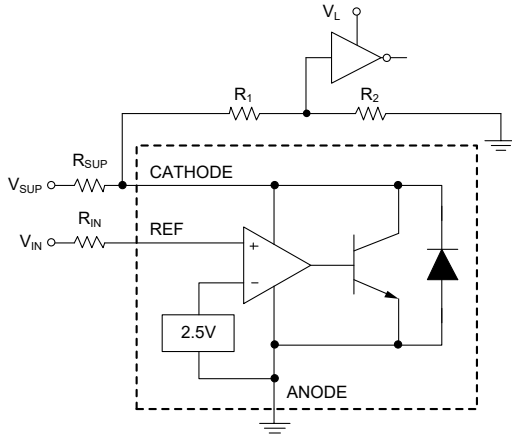
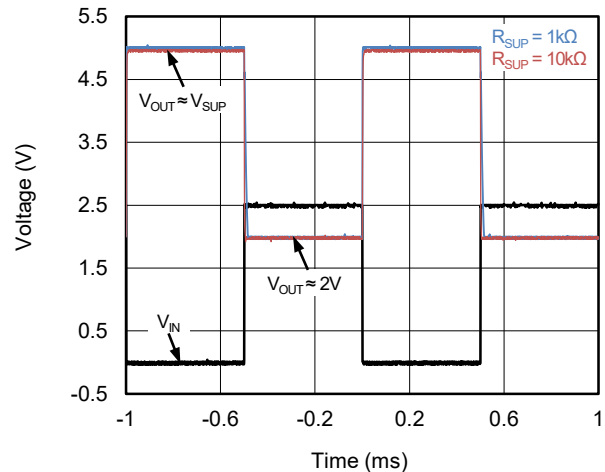

Figure 3. Comparator Application Schematic
Figure 4. Output Response with Various Cathode Current
As shown in Figure 3, the SGM432x is always used as a comparator with 2.5V integrated reference in application, for this design, the parameters are listed in Table 1. The REF pin voltage is compared with reference inside and is amplified. Also, the SGM432x responds fast if the operation current I_{KA} is large enough. In Figure 4, it is clear to see that the output response with $R_{SUP} = 1k\Omega$ is much faster than $R_{SUP} = 10k\Omega$. The maximum cathode current of I_{MIN} is 0.7mA, any cathode current below this value will cause a low response (low open-loop gain) for the application of comparator.
The input resistance should be less than 10k Ω in order to minimize the voltage drop between V_{IN} and V_{REF} . The readability of the logic output of the comparator should be guaranteed so that it can be received by the next stage. In Figure 4, the V_{IL} of the comparator logic is 2V, which is sufficient for a 5V supply voltage. However, for the logic stage which is powered by 1.8V or 3.3V, the V_{IL} is hard to be figured out. To accommodate this, a voltage divider should be taken into account. Due to the Open-Collector (OC) output stage, the V_{IH} is equal to the voltage of its power supply. When the voltage divider is used to attenuate V_{IH} , please make sure that the sum of R_1 and R_2 is greater than the resistance R_{SUP} to the power supply.